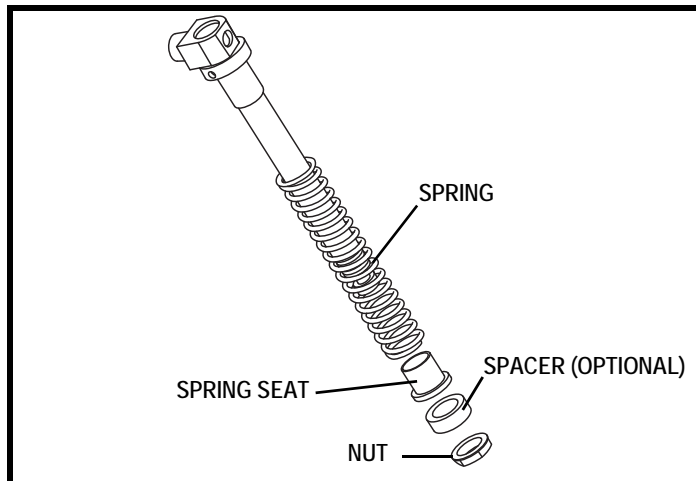

Figure 40. Upper Body Extension Limiter/Tensioner, Exploded View (Kids ROCK 2 and ROCK 3)
5. Using a 3/4-in. wrench, remove the nut from below the spring. See figure 40.
8. Install spring seat. Install spacers if desired. See figure 40.